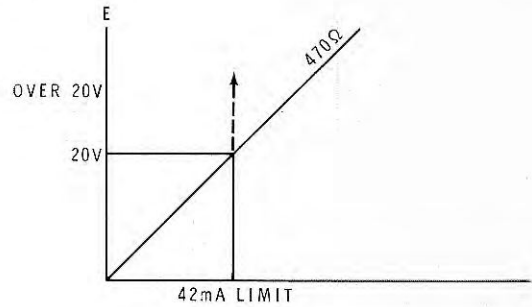

Figure 8
- () Turn the VOLTAGE control clockwise. The voltage should not increase (the Power Supply is now current limited. See Figure 8).